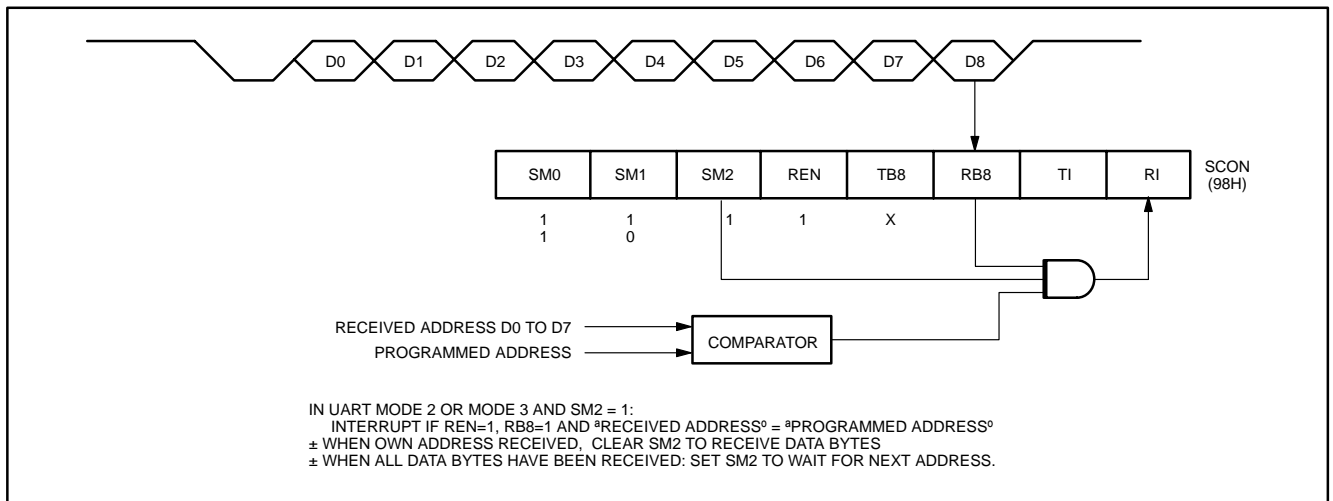

Figure 12. UART Multiprocessor Communication, Automatic Address Recognition
Automatic Address Recognition is a feature which allows the UART to recognize certain addresses in the serial bit stream by using hardware to make the comparisons. This feature saves a great deal of software overhead by eliminating the need for the software to examine every serial address which passes by the serial port. This feature is enabled by setting the SM2 bit in SCON. In the 9 bit UART modes, mode 2 and mode 3, the Receive Interrupt flag (RI) will be automatically set when the received byte contains either the "Given" address or the "Broadcast" address. The 9-bit mode requires that the 9th information bit is a 1 to indicate that the received information is an address and not data. Automatic address recognition is shown in figure 12.